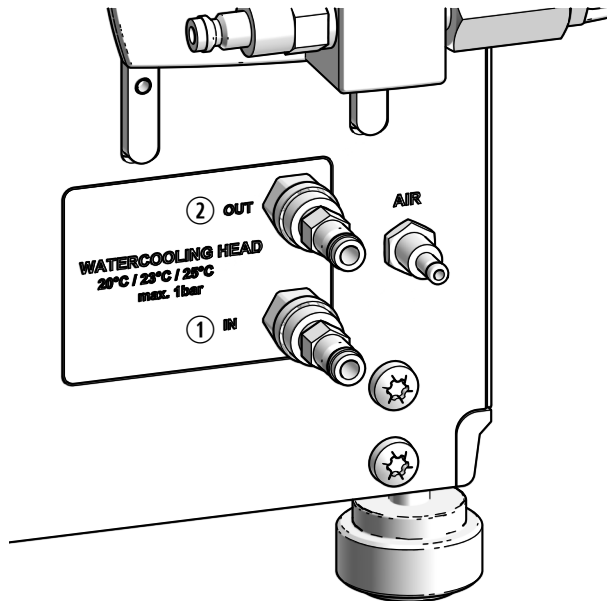

Fig. 8: Hose connections on the measuring unit's rear panel to fluid circulator.
1. Connect the hose from the circulator outlet to the connector "WATERCOOLING HEAD - IN" on the rear panel of the MCR measuring unit (Fig. 8, ①). We recommend installing a flow indicator on this connection.
2. Connect the hose from the circulator inlet to the connector "WATERCOOLING HEAD - OUT" on the rear panel of the MCR (Fig. 8, ②).
1. If applicable, first disconnect the hose stemming from the circulator inlet from the "WATERCOOLING HEAD - OUT" connector on the rear panel of the MCR measuring unit (Fig. 8, ②).
3. Extend the second blue hose from the lower measuring drive to reach the connector "WATERCOOLING HEAD - OUT" on the rear panel of the MCR measuring unit (Fig. 8, ②) using the adequate hoses and couplings from the accessory kit.
4. As described in section 5.8.1, connect the hose from the circulator outlet to the connector "WATERCOOLING HEAD - IN" on the rear panel of the MCR measuring unit (Fig. 8, ①). We recommend installing a flow indicator on this connection.